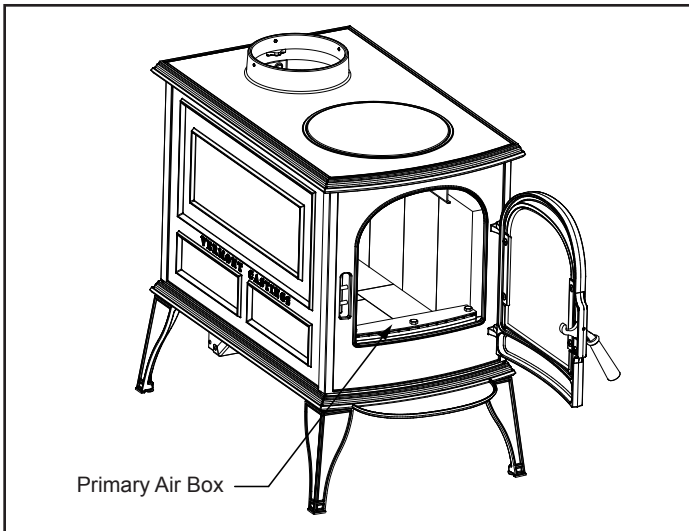

Figure 8.2
1. Use a fireplace tool to break up the charcoal. Pull the charcoal from the back to the front. This will encourage efficient combustion as the fuel burns from front to rear. Take care, however, not to block the primary air box with coals or ash, Figure 8.2.
Remove ash before it reaches the top of the Primary Air Box, Figure 8.2. Check the level at least once a day, and before each re-fueling.